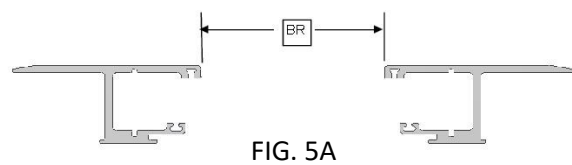

FIG. 5A
Check for proper spacing by measuring between the rails at the canister and the tailgate end of the rails (Fig 5A). The measurement should be equal to or less than those in Fig 5B. The Rail Brackets and Shims have been pre-installed to achieve the proper Between the Rail dimensions (BR) when placed on an average factory truck bed. However, not all truck beds are average dimensionally and some have optional plastic caps or over the rail spray-in bedliners.
Verify the BR Dimension after the rails are leveled (STEP 5, FIG. 5A & FIG. 5B)